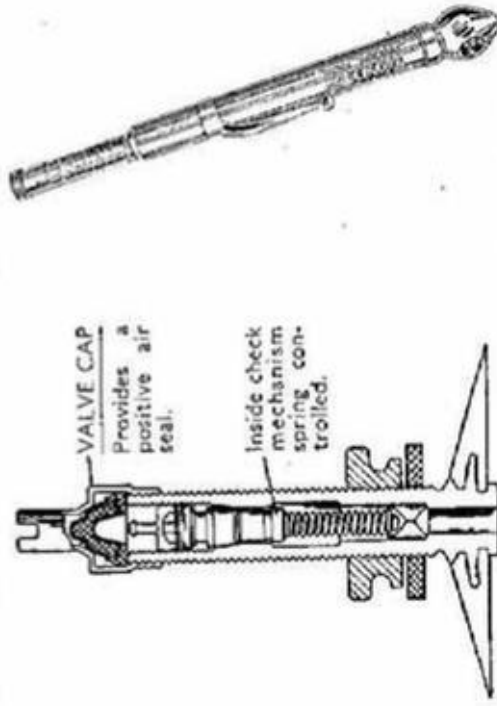

FIG. 9. SHOWING INTERNAL DETAILS OF DUNLOP VALVE (LEFT) AND DUNLOP PENCIL TYPE No. 6 PRESSURE GAUGE (RIGHT)
on all Dunlop tubes are shown in Fig. 9. The valve core has a non-return valve to facilitate tyre inflation and checking the pressure. This forms an effective air seal, but nevertheless keep the valve cap screwed on tightly (hand tightening only). Dust or dirt collecting inside the valve stem is liable to interfere with the action of the inside check mechanism and cause leakage.
Check Inflation Pressures Weekly. Even the best quality rubber is not entirely impervious to air leakage, and tyre inflation pressures slowly but surely decline in spite of the fact that the tyres and valves are in perfect condition. Therefore check the inflation pressures of both tyres weekly, not by "thumbing" the covers or kicking them, but by using a suitable pressure gauge. An excellent type gauge is shown in Fig. 9. By maintaining the inflation pressures correct, tyre deflection is reduced to the minimum, and maximum comfort, tyre life, and freedom from skidding are assured.
- (1) Remove the front or rear wheel (see pages 120-121).
- (2) Remove the valve cap and the valve securing nut. Also completely deflate the tyre by removing the valve core or inside check mechanism (see Fig. 9).
- (3) Push both tyre beads inwards off the rim seats.
- (4) Insert a tyre lever close to the valve, and while pulling on the lever, push the beaded edge of the cover (diametrically opposite to the valve) into the well of the rim.
- (5) Insert a second tyre lever about 2½ in. distant from the first one, and progressively prise the bead over the flange of the rim.
(6) Continue to remove the tyre cover with one lever, while retaining the detached portion of the bead with the second lever. The use of force should not be necessary.
(7) Push the stem of the valve upwards through the hole in the rim and carefully withdraw the tube. Place it in a safe position away from oil and dirt.
(8) Stand the cover upright, with the wheel in front.
(9) Insert from the front a tyre lever between the flange and